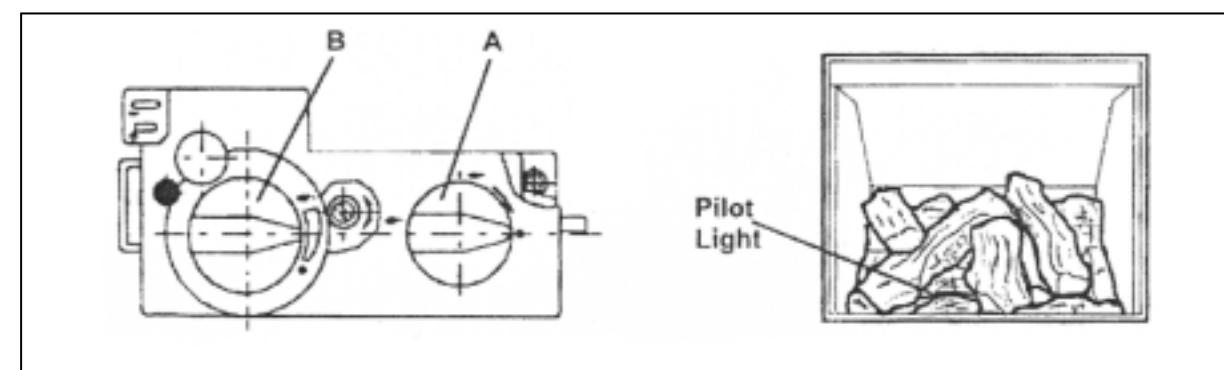

Figure 1.
4. Wait five (5) minutes to clear out any gas. Then smell for gas, including near the floor. If you smell gas STOP and follow point B in the safety information above. If you don't smell gas go to the next step.
5. Turn knob A (figure 1) counter clockwise ↻ towards the ignition position (IGN) until reaching stop, press down and hold for five seconds (only pilot gas flows). Continue pressing down knob A while turning further counter clockwise ↻ to activate piezo, continue to hold down for ten seconds after pilot burner has been lit. If pilot does not light, steps 1 and 2 can be repeated immediately. Upon lighting, release knob and turn further counter clockwise ↻ to ON position. Pilot gas flows and main gas flows in accordance to the temperature setting knob B).